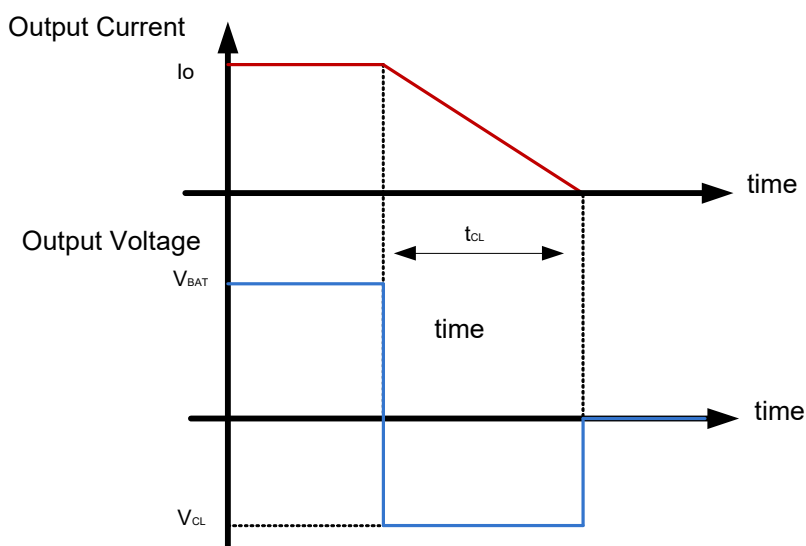

Figure 20. Simplified negative output clamp waveform
In case of an inductive load (L), the energy is dissipated after the turn-off inside the N-channel MOSFET. When $t_{CL} (= I_o \times L / V_{CL}) > 1.0$ ms, the turn-off waveform can be simplified with a rectangle, as shown in Figure 20.